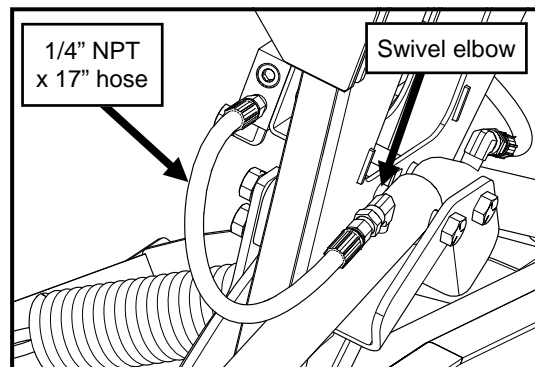

Fig. 5.4—17" Hoses to Cylinders
**5.4** Attach and tighten the free end of each of the 1/4" NPT x 17" long hoses, (previously installed in the crossover relief valve block) to the swivel elbow in its respective angle cylinder. See Fig. 5.4.